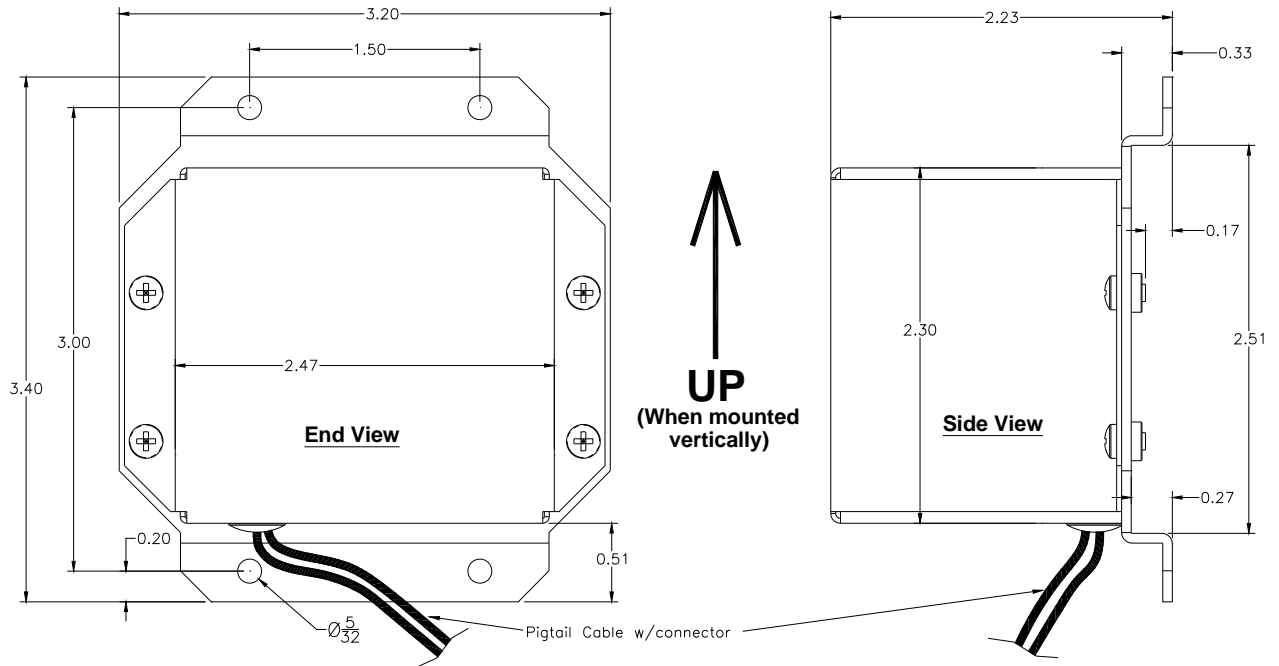

Figure 2.4: Remote Mount Standby Battery Option, using 9015671 Kit
- 3. Mount the standby battery in a protected location inside the aircraft using 9015671 kit, oriented at any angle from horizontal to vertical. If mounted vertically, cable side must be down as shown in Fig. 2.4.